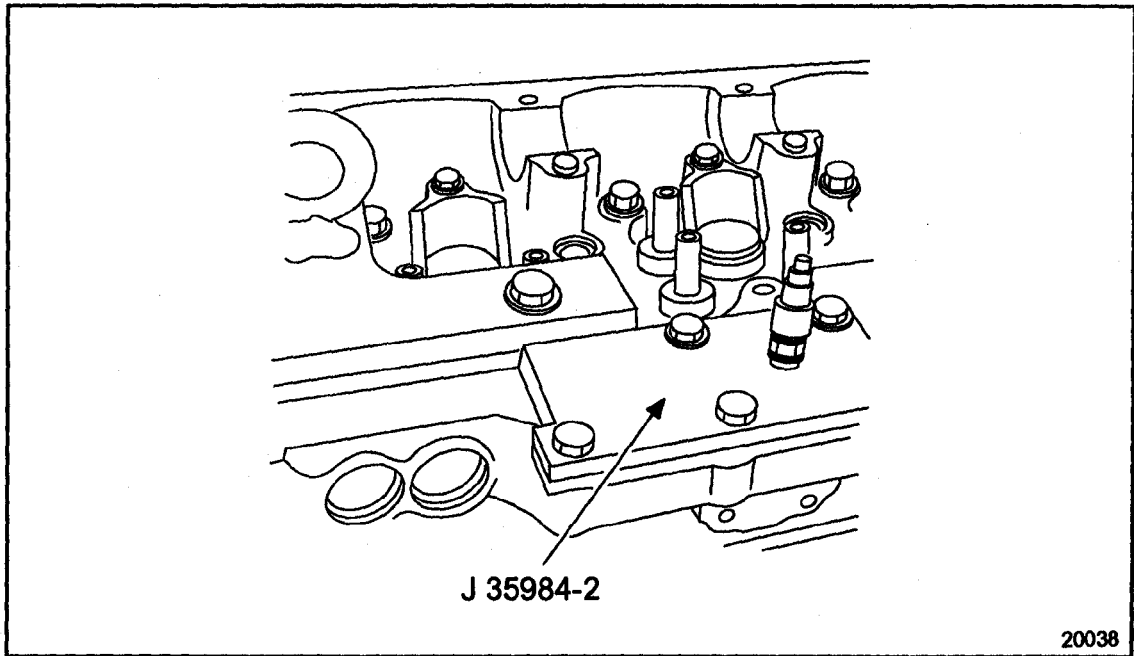

Figure 1-39 Thermostat Opening Cover Plate Installation
3. Install the thermostat opening cover plate, and gasket to the cylinder head using the bolts provided with the cover plate. See Figure 1-39.